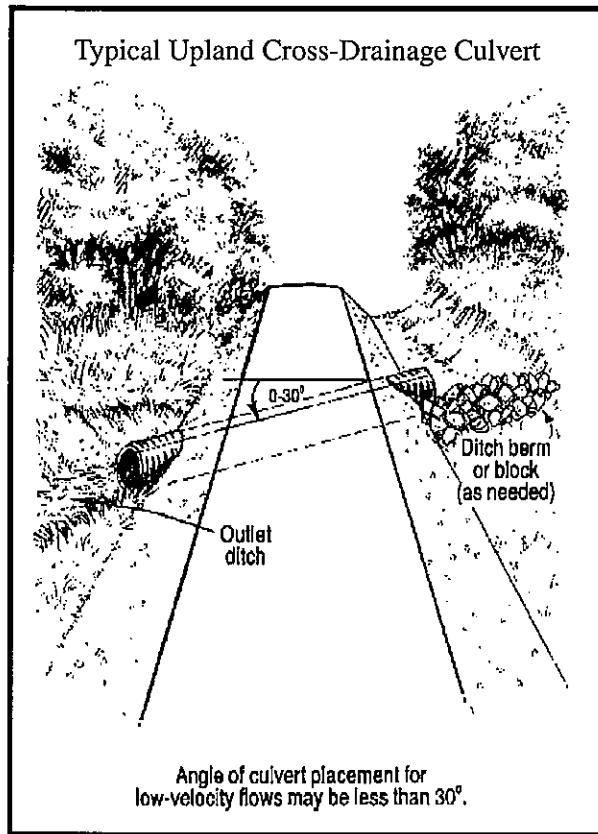

Figure ROAD-7
- ✓ **Install culverts** at grades 2% more than the ditch grade and angled at least 30 degrees from perpendicular to the flow of water to improve inlet efficiency. See Figure ROAD-7.